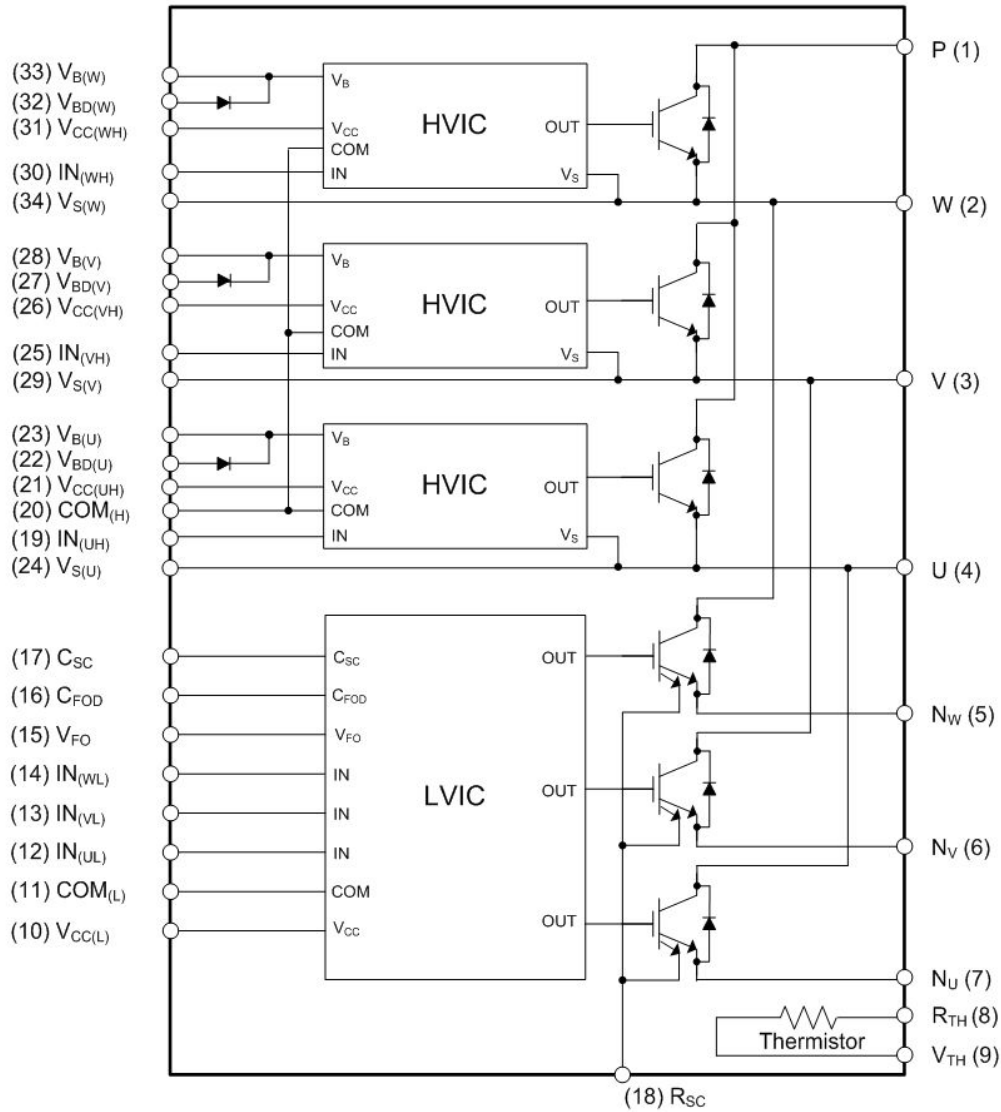

Figure 2. Internal Block Diagram
- 1200 V – 35 A IGBT inverter for three-phase DC / AC power conversion (refer to Figure 2)